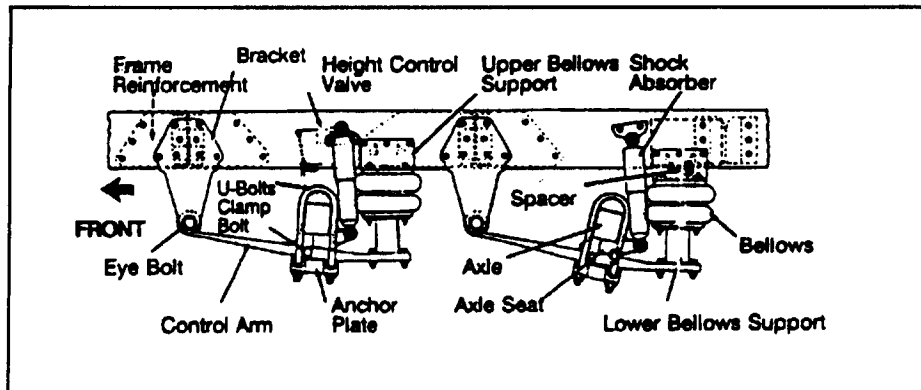

Figure 2-12. Air suspension parts
- (7) Damaged and/or leaking air suspension systems (see Figure 2-12, page 2-42).
- (8) Any loose, cracked, broken, or missing frame members.